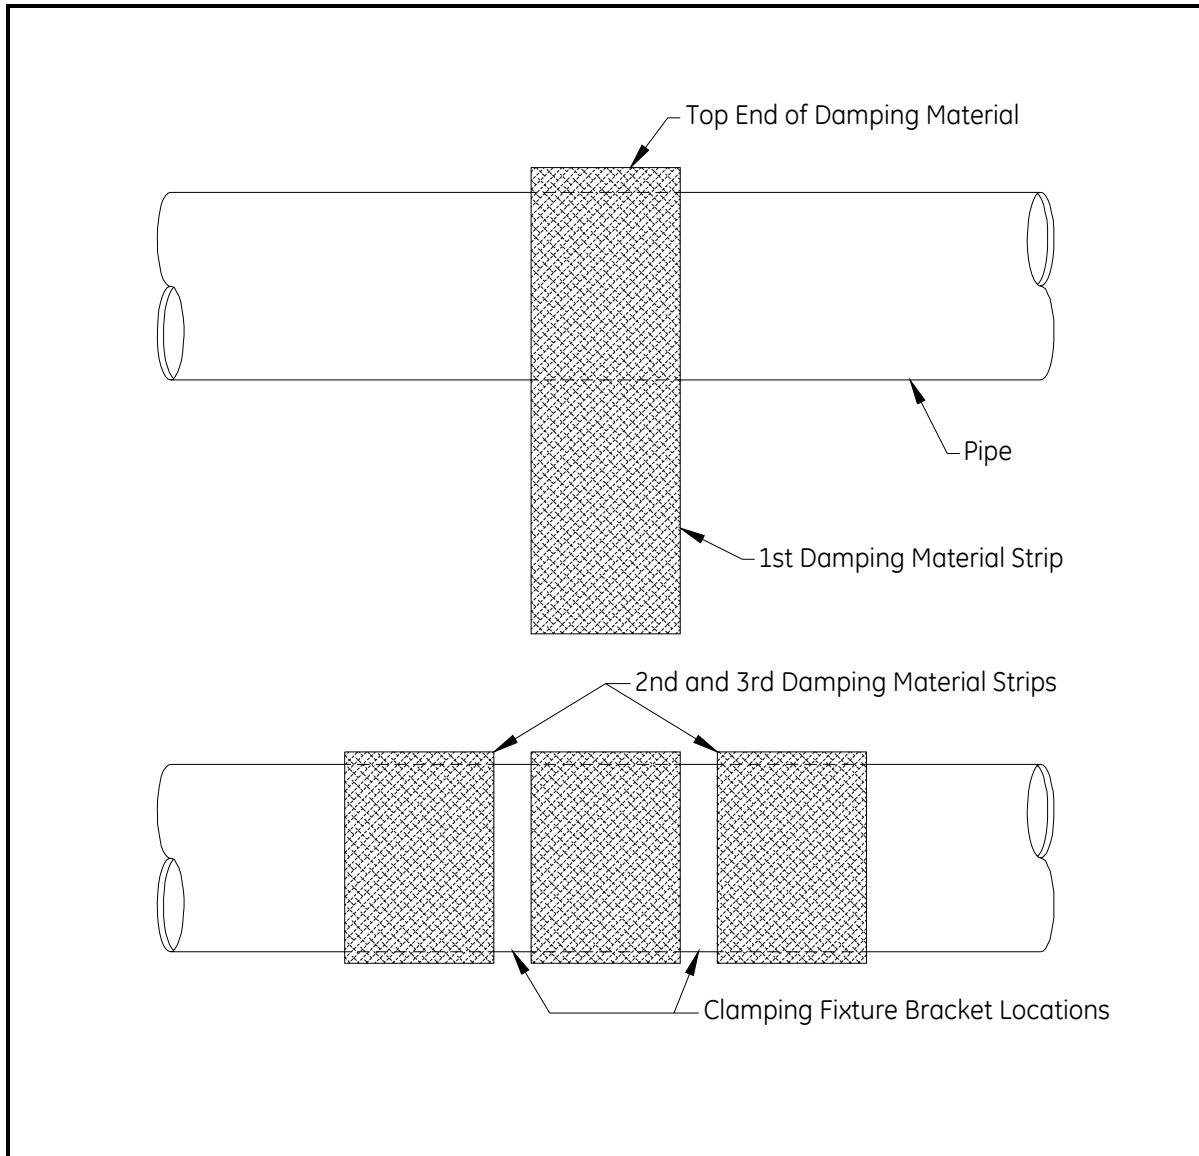

Figure 2-2: Damping Material - Orientation and Application for CFT-V Fixtures
The surface of the pipe should be covered with damping material. Three pieces of the material should be placed as follows: one between the ends of the CFT-V clamping fixture and one on either side of the fixture. Use the following instructions and Figure 2-2 on page 2-10:
1. Place the first piece of damping material at the flow velocity measurement section. Position the strip as shown in Figure 2-2.
1. Place the first piece of damping material on one side of the fixture. Position the piece in the same way as the first damping material strip shown in Figure 2-2 on page 2-10.